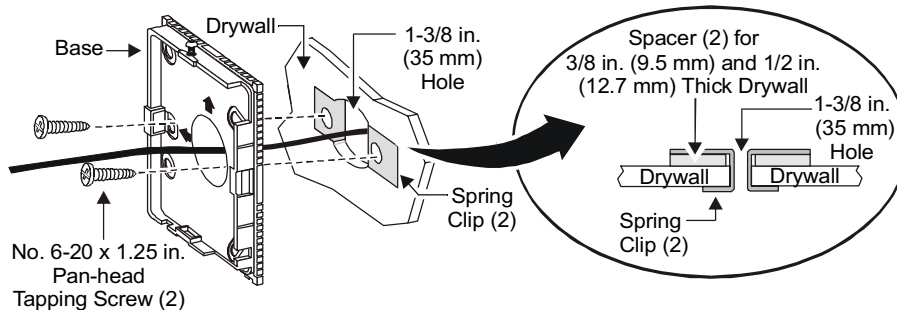

Figure 4: Surface Mounting to Drywall
To mount to drywall, refer to Figure 4 and proceed as follows:
4. Insert the spring clips on each side of the drilled 1-3/8 in. (35 mm) hole, and use the spacers, if needed, as shown in Figure 4. Do not use the spacers for 5/8 in. (16 mm) drywall.